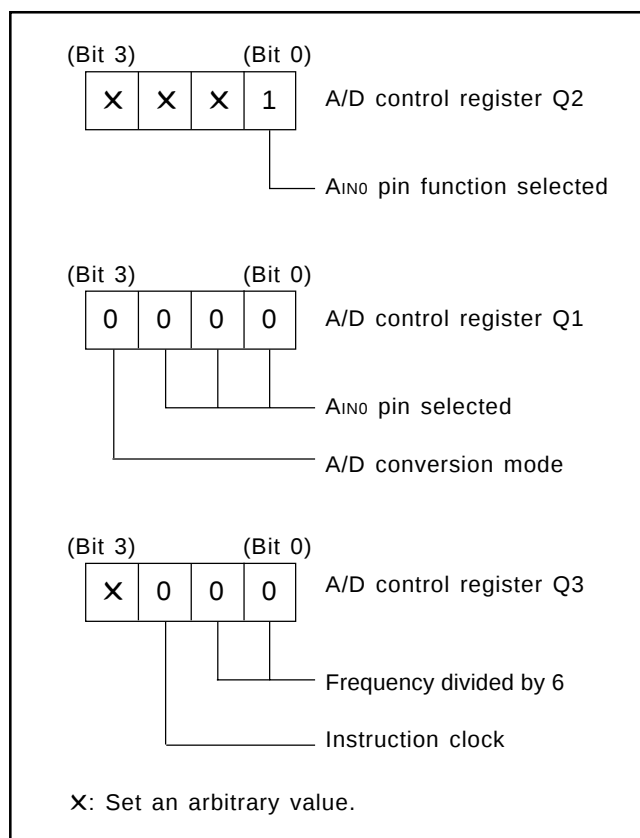

Fig. 39 Setting registers
- ① Select the AI_{NO} pin function with the bit 0 of the register Q2. Select the AI_{NO} pin function and A/D conversion mode with the register Q1. Also, the instruction clock divided by 6 is selected with the register Q3. (refer to Figure 39)
- ② Execute the ADST instruction and start A/D conversion.
- ③ Examine the state of ADF flag with the SNZAD instruction to determine the end of A/D conversion.
- ④ Transfer the low-order 2 bits of converted data to the high-order 2 bits of register A (TALA instruction).
- ⑤ Transfer the contents of register A to M(Z, X, Y) = (0, 0, 2).
- ⑥ Transfer the high-order 8 bits of converted data to registers A and B (TABAD instruction).
- ⑦ Transfer the contents of register A to M(Z, X, Y) = (0, 0, 1).
- ⑧ Transfer the contents of register B to register A, and then, store into M(Z, X, Y) = (0, 0, 0).